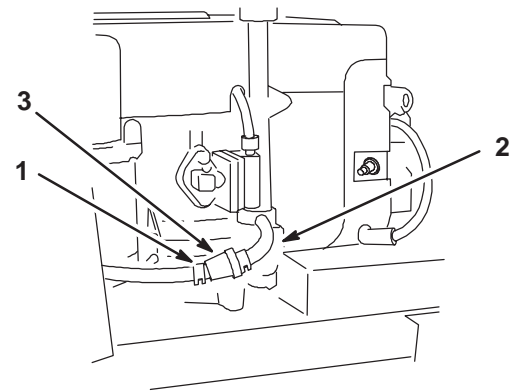

Figure 27
5. Squeeze the ends of the hose clamp together and slide it up the fuel line toward the fuel tank (Fig. 27).
6. Pull the fuel line off the filter (Fig. 27). Open fuel shut-off valve and allow gasoline to drain into an approved gas can.
5. Squeeze the ends of the hose clamps together and slide them away from the filter (Fig. 27).